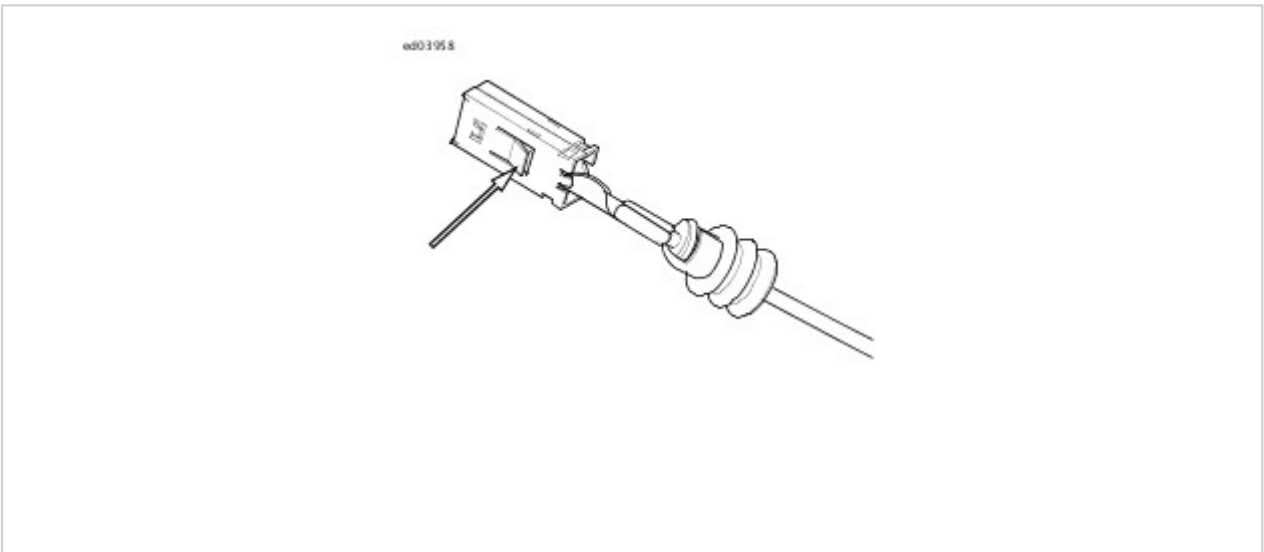

Figure 2. Tangs: Bosch Compact 1.1M Terminal
1. See **Figure 2**. Use a hobby knife to bend the tangs on each side of the terminal outward.